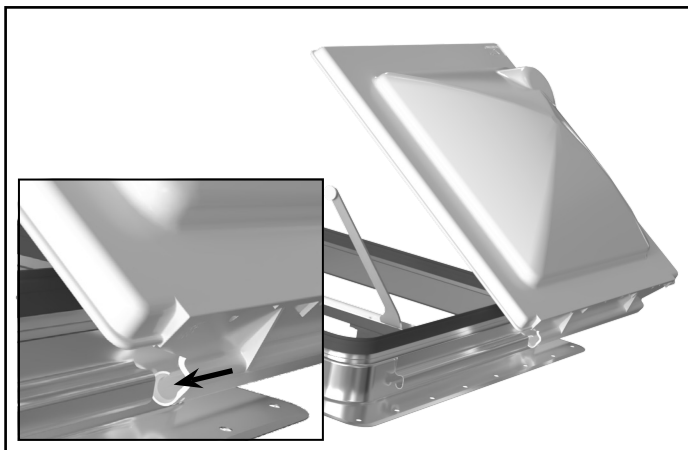

Figure 10
- b. (On the roof). Align the hinge on the lid with the hinge on the vent and slide the lid onto the hinge on the vent frame. **(Figure 10)**